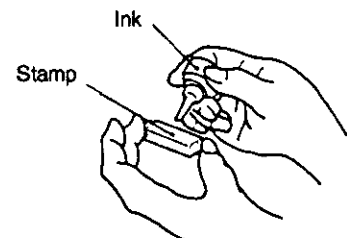

Fig. 5
3. Apply ink to the pad on the rear side of the Store Name Stamp. The amount applied should be adjusted according to the desired darkness of the printed message, but the limit of 2 cc should not be exceeded. (The ink bottle supplied contains 5 cc of ink.) (Fig.5)